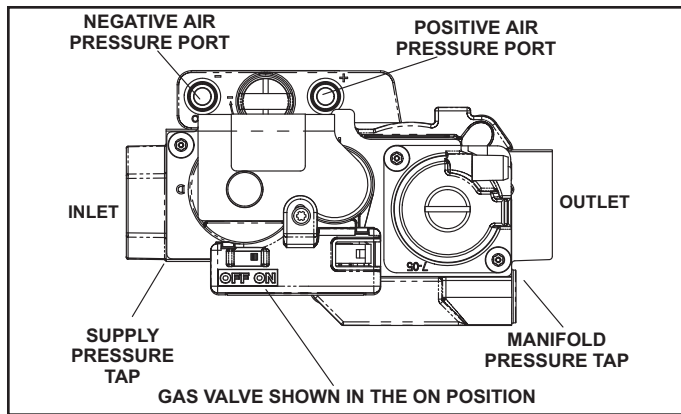

Figure 45. Gas Valve
See Figure 45
6. Move the gas valve switch to the OFF position. See Figure 45.
8. Move gas valve switch to the ON position. See Figure 45. DO NOT force.